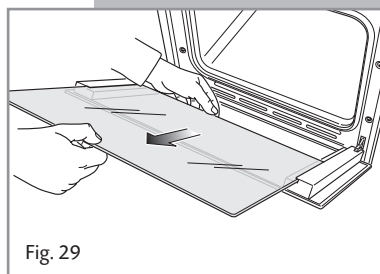

Fig. 29
- Gently pull out the inner pane of glass (Fig. 29).